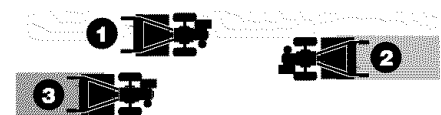

Figure 4-16
- If the garden size will not permit lengthwise and then crosswise tilling, then overlap the first passes by one-half a tiller width, followed by successive passes at one-quarter width (Figure 4-16).